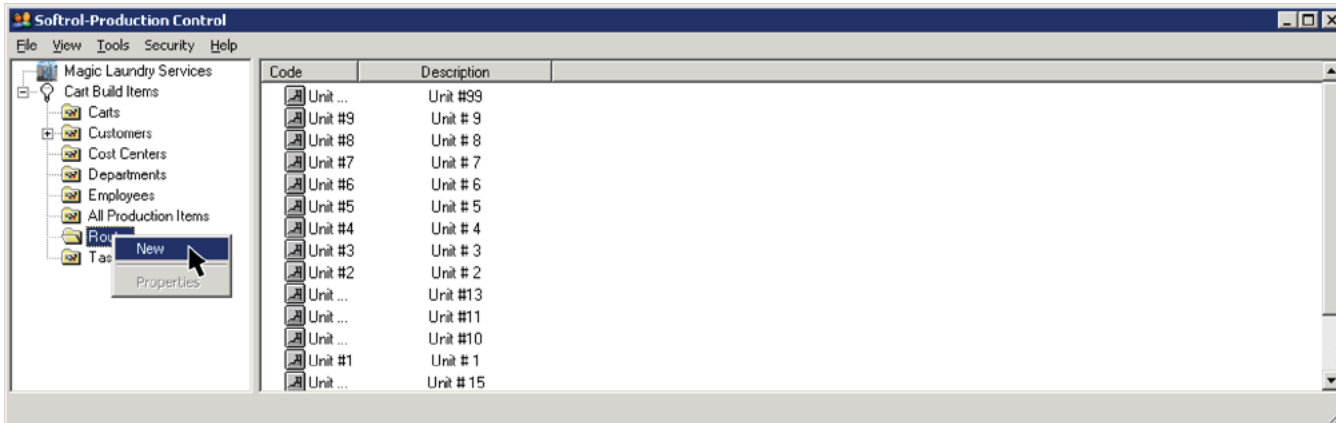

Figure 17. Right-click **Routes**, and select **New**.
1. Click **Routes** on the *Softról Production Control* window to highlight it (see Figure 17).